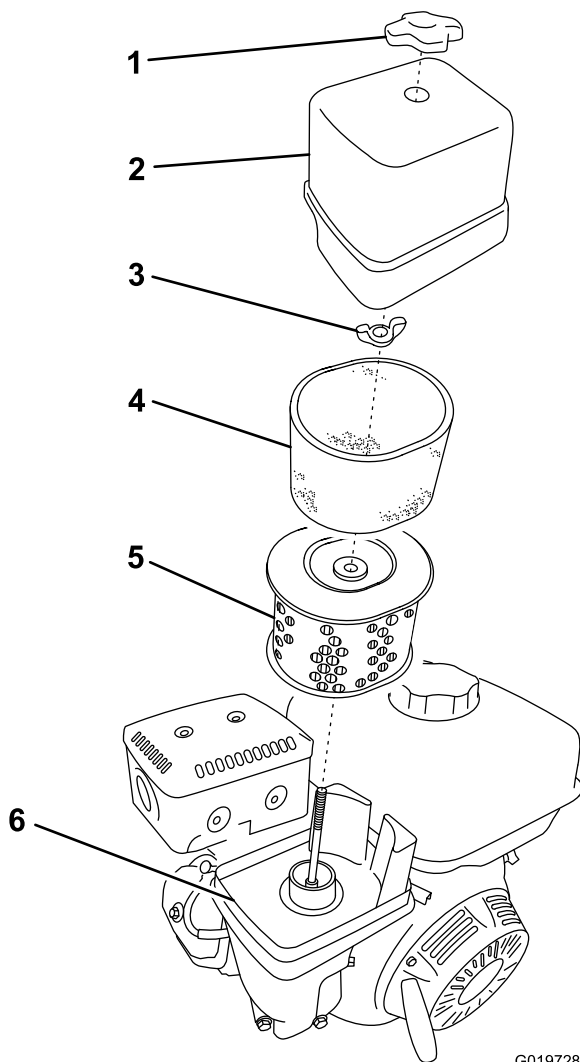

Figure 24
3. Remove the nut that secures the cover (Figure 24).
5. Remove the foam and paper elements from the base (Figure 24).
6. Remove the foam element from the paper element (Figure 24).